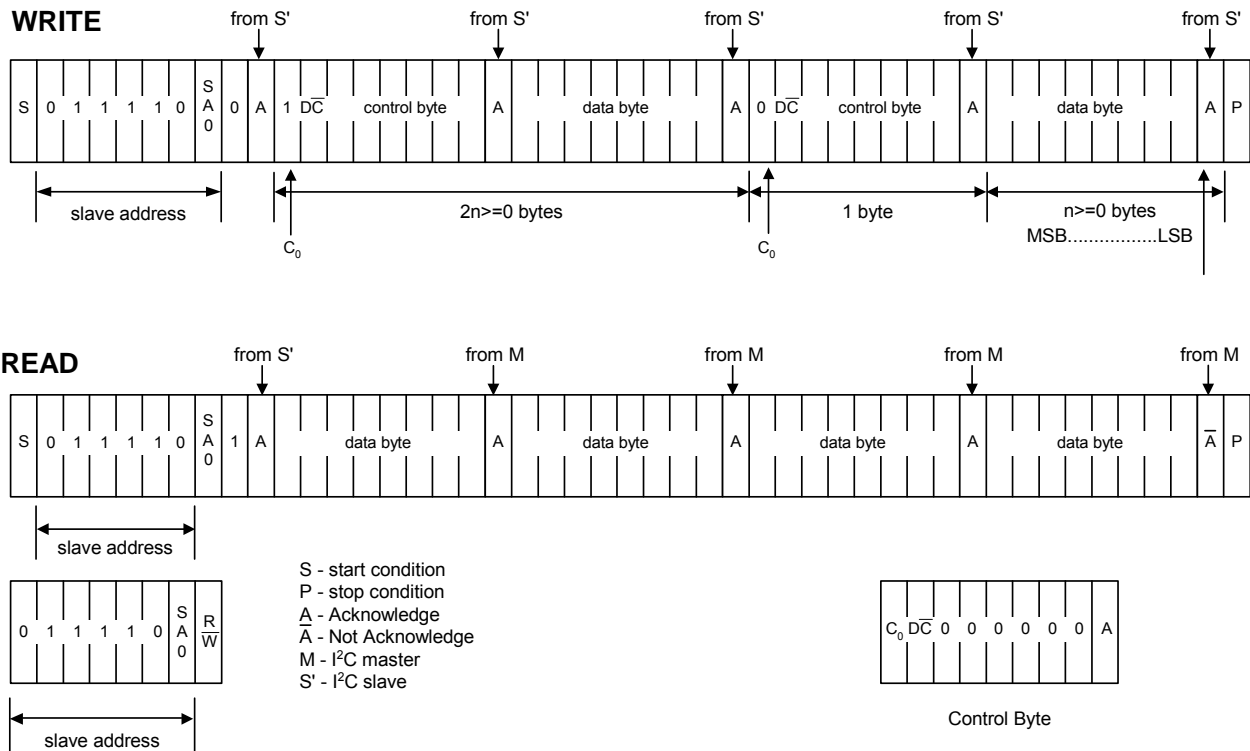

Figure 7 I²C Protocol
The SH1106 supports both read and write access. The R/\bar{W} bit is part of the slave address. Before any data is transmitted on the I²C-bus, the device that should respond is addressed first. Two 7-bit slave addresses (0111100 and 0111101) are reserved for the SH1106. The least significant bit of the slave address is set by connecting the input SA0 to either logic 0(VSS) or 1 (VDD1). The I²C-bus protocol is illustrated in Fig.7. The sequence is initiated with a START condition (S) from the I²C-bus master that is followed by the slave address. All slaves with the corresponding address acknowledge in parallel, all the others will ignore the I²C-bus transfer. After acknowledgement, one or more command words follow which define the status of the addressed slaves. A command word consists of a control byte, which defines C_0 and D/\bar{C} (note1), plus a data byte (see Fig.7). The last control byte is tagged with a cleared most significant bit, the continuation bit C_0 . After a control byte with a cleared C_0 -bit, only data bytes will follow. The state of the D/\bar{C} -bit defines whether the data-byte is interpreted as a command or as RAM-data. The control and data bytes are also acknowledged by all addressed slaves on the bus. After the last control byte, depending on the D/\bar{C} bit setting, either a series of display data bytes or command data bytes may follow. If the D/\bar{C} bit was set to '1', these display bytes are stored in the display RAM at the address specified by the data pointer. The data pointer is automatically updated and the data is directed to the intended SH1106 device. If the D/\bar{C} bit of the last control byte was set to '0', these command bytes will be decoded and the setting of the device will be changed according to the received commands. The acknowledgement after each byte is made only by the addressed slave. At the end of the transmission the I²C-bus master issues a stop condition (P). If the R/\bar{W} bit is set to one in the slave-address, the chip will output data immediately after the slave-address according to the D/\bar{C} bit, which was sent during the last write access. If no acknowledge is generated by the master after a byte, the driver stops transferring data to the master.